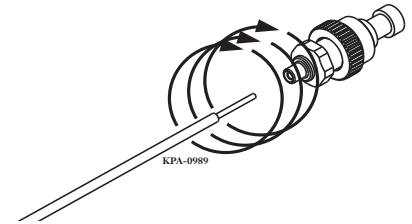

Figure 52 — Use Cleaning Stick on Ferrule Adapter
- Step 2:** Insert the stick into the adapter opening and rotate the tip clockwise 10 revolutions (Figure 52).